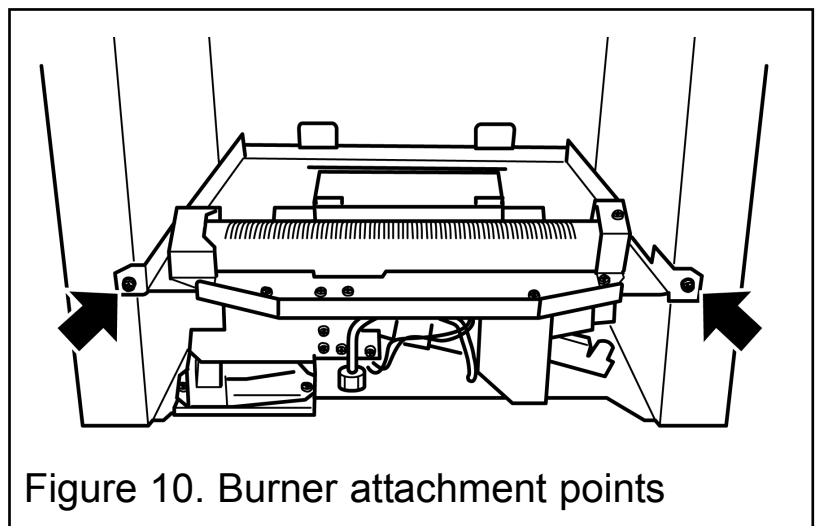

Figure 10. Burner attachment points
1. Detach the burner unit from the convection box by removing two screws - See figure 10. Lift the burner unit clear.